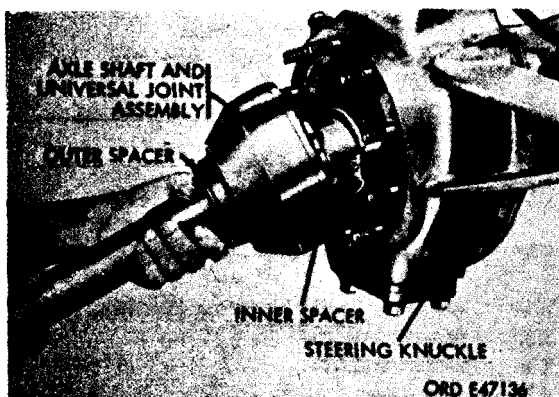

Figure 346. Removing axle shaft and universal joint assembly
- (4) Remove oil slinger and brake plate. Remove the nuts and lockwashers that attach the oil slinger and brake backing plate to steering knuckle, and remove oil slinger and backing plate.
- (5) Remove wheel spindle. Remove wheel spindle from steering knuckle by tapping with a soft hammer and then driving wedges between spindle and steering knuckle.
- (6) Remove axle shaft and universal joint assembly. Withdraw axle shaft and universal joint assembly (fig. 346) from steering knuckle.